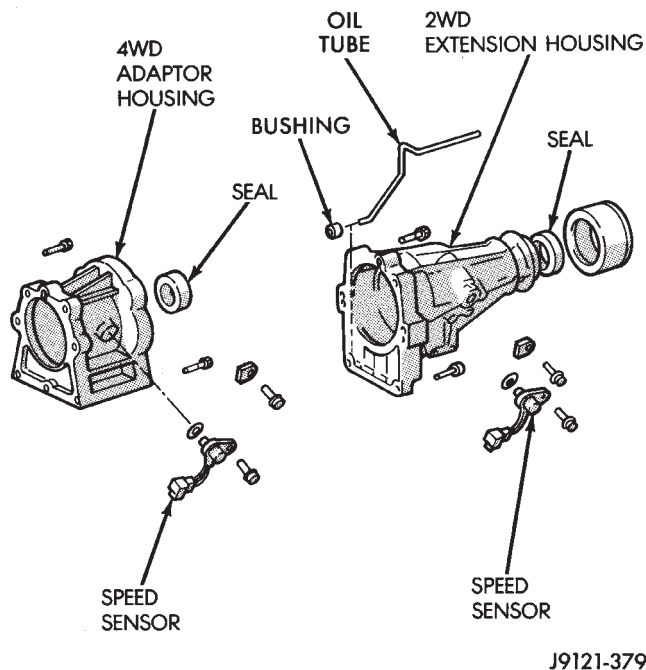

Fig. 36 Adapter Housing Seals
(2) Disconnect or remove components necessary to gain access to seal (e.g. propeller shaft, crossmember, shift linkage, transfer case, exhaust components, hoses, wires).
(3) Remove dust shield and remove seal from adapter housing (Fig. 36).